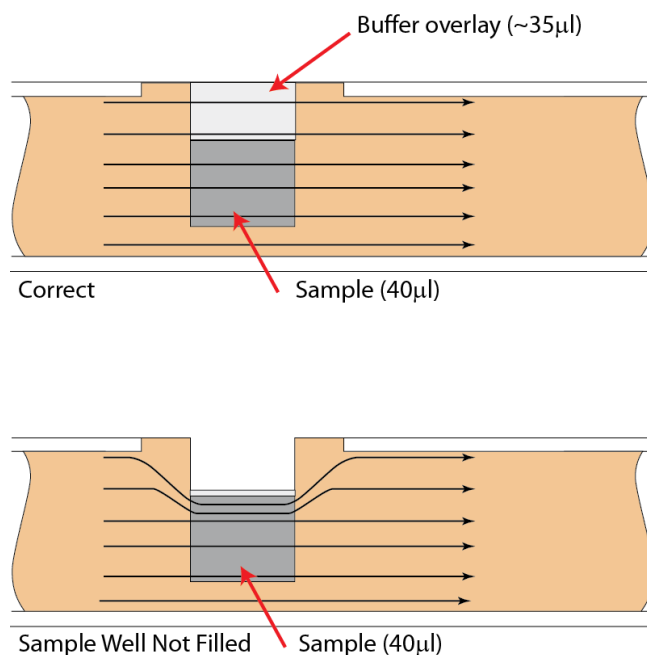

Figure 10.1. An illustration of the electrophoretic effect on a sample when a sample well is not completely filled.
Proper sample loading is critical for best performance of SageELF cassettes. For maximum reproducibility and accuracy, the sample should travel through the central section of the gel column, and should be bounded on all four sides by uniformly conductive media – either gel or electrophoresis buffer. The goal of the loading procedure is to produce this geometry in the sample loading well, as illustrated in the bottom section of **Figure 10.1**. Properly prepared samples will be 40 μ l in total volume. Loading solution used during sample prep contains concentrated Ficoll as a densifying agent (see following chapter on Sample Preparation for details), and therefore the samples will sink and form a high density layer beneath the electrophoresis buffer when pipetted slowly into the sample wells. If there is insufficient conductive buffer over the sample, the electrophoretic forces lines will curve upward as the sample exits the well (see **Figure 10.1**, upper section), and the sample will be drawn to the top of the cassette where it can travel out of the gel into the gap between the gel column and the plastic top of the channel. Sample moving in this gap will travel at a different rate than the sample inside the gel column, and will lead to elution of undesired size fractions in the eluted material. In such cases, the contaminating sample will usually (but not always) be higher in molecular weight than the anticipated fractions.
2. **Remove 40 μ l of buffer from the sample well, and load 40 μ l of sample into that well.** Take care not pierce the agarose with the pipette tip. There is gel on all sides and bottom of the sample well. In addition, there is an agarose “chimney” surrounding the top of the sample well that protrudes up through the cassette cover (see **Figure 10.1**, on the previous page). When removing buffer, some users find it useful to immerse the pipette tip just below the surface of the buffer and follow the liquid level down with the tip as the buffer is removed. When buffer removal is completed, there will be ~35 μ l of buffer left in the well. When adding sample, place tip of pipette just below the surface of the buffer, and follow the liquid level up with the tip as the well fills. Don't be concerned if the sample well slightly overfills. The density of the sample will allow it to sink before it can flow out of the well.